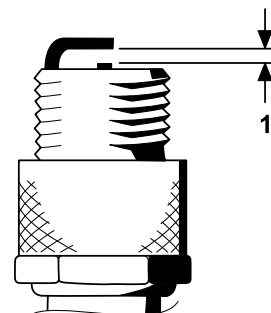

Figure 42
4. Set the air gap between the center and side of the electrodes at 0.76 mm (0.030 inches) as shown in Figure 42.